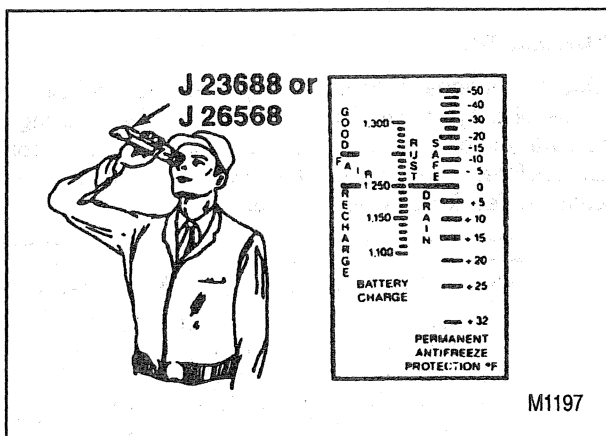

Figure 4—Reading the Coolant Tester
- Point J 26568 or J 23688 toward any light source and look into the eyepiece (figure 4).